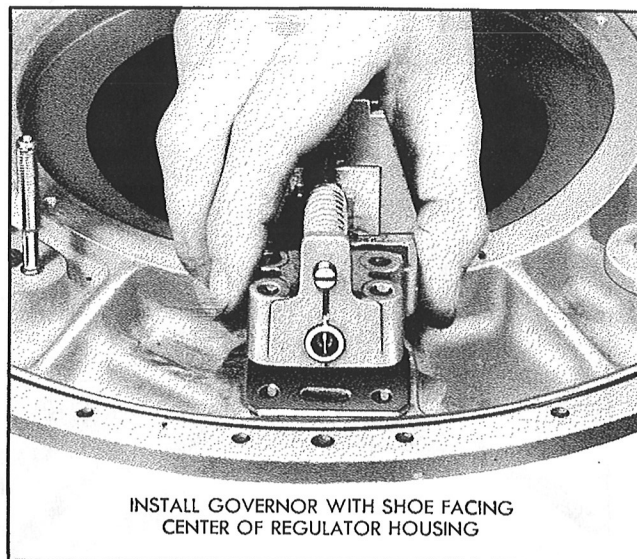

Figure 149—Installation of the Governor
Step 8.—Install the governor so that the governor shoe extends toward the center of the regulator housing. See Figure 149. Install the 1/4" x 28 capscrews and flat washers.